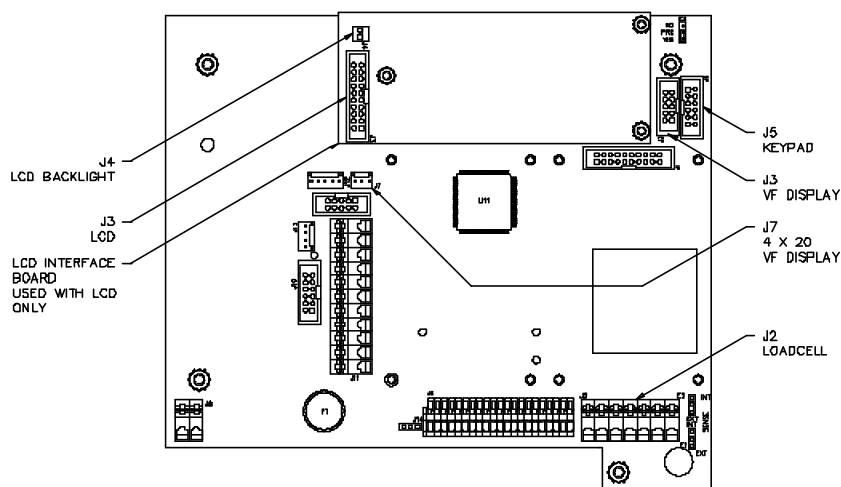

Figure 2-9: 660 Series Main Board
4. Carefully lift the rear panel from the enclosure, and disconnect the keypad ribbon cable from J5 on the main printed circuit board (see Figure 2-9).
6. Connect the load cell leads to J2 on the main board (see Figure 2-9 and refer to page 2-19).
1. Connect the keypad ribbon cable to J5 on the main board (see Figure 2-9).
6. Install the load cell leads into J2 on the main board (see Figure 2-9 and refer to page 2-19).
4. Disconnect the keypad ribbon cable from J5 on the main printed circuit board. See Figure 2-9.